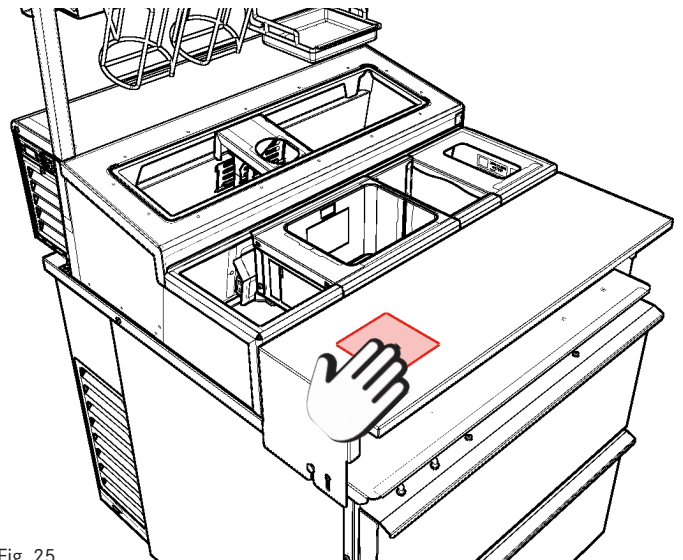

Fig. 25
1. Before continuing, empty drawers and complete a manual defrost (refer to *Manual Defrost*, above). Thoroughly clean unit exterior and interior per store *Planned Maintenance Manual* daily procedure (Fig. 25).